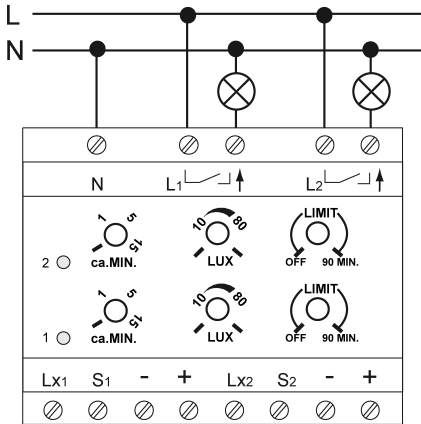

Figure 6: Connection diagram, 2-channel power pack
- Connect the power pack according to connection diagram (Figure 6).